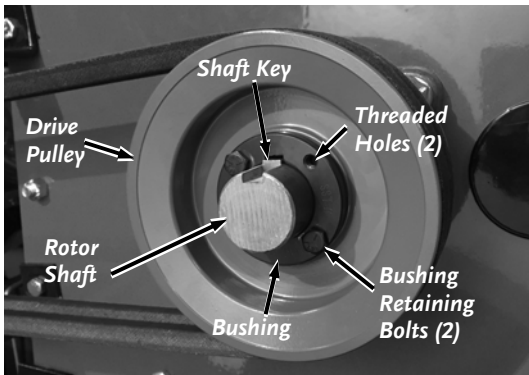

Figure 19
3. Remove the Bushing Retaining Bolts with a 7/16" Wrench (Figure 19).
4. Reinstall the two bolts in the Threaded Holes adjacent the two holes you just removed the Bolts from (Figure 19).
5. Slowly tighten the Bolts about a 1/4 to 1/2 turn evenly and alternately until the Bushing releases from the Rotor Shaft (Figure 19).